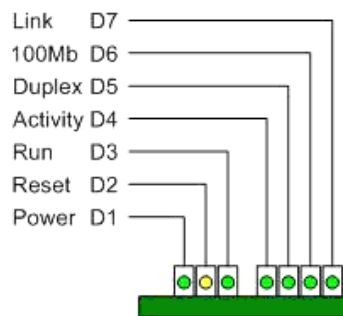

Figure 2. Motion Controller Status Indicator LED's
- Place the controller near the host computer and apply power to the controller board by inserting a plug from the power supply¹ into connector J1. The **Power** status LED (see Figure 2. Motion Controller Status Indicator) should illuminate immediately and the **Run** status LED should illuminate after a 2-3 second delay which time you will also hear a “clicking” sound due to the closure of the watchdog relay. For power supply requirements, see the Specifications chapter of this manual. For connector and wiring information, see Table 2. Motion Controller Board Connectors – Type and Function.